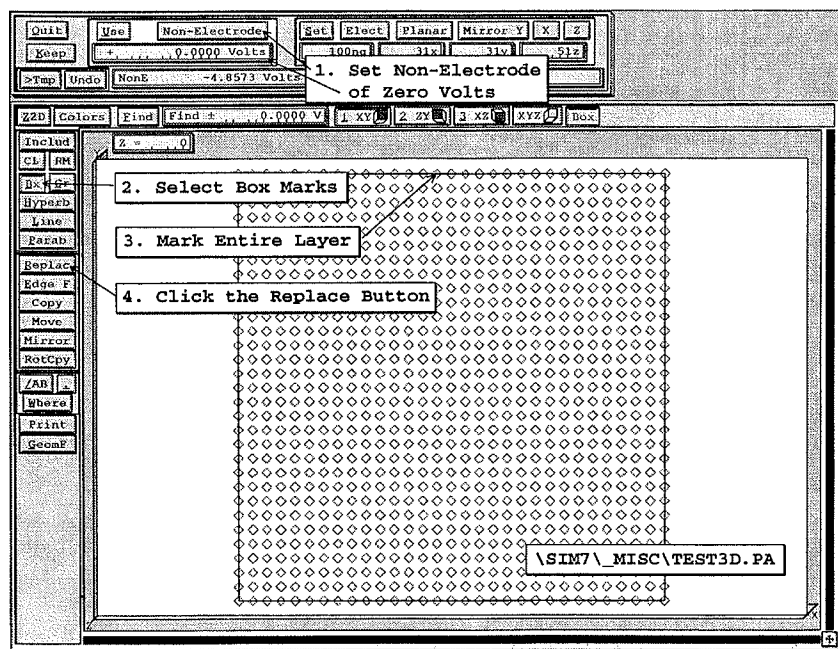

Figure 5-16 Using the Replace function to erase the entire array
*The Replace function can be used to erase all points in the potential array*. The steps are: Mark an entire 2D layer with a box mark; set the point type to non-electrode/non-pole and potential to zero; and click the **Replace** button, hit the **<R>** key, or **<Ctrl>** *right* mouse button. Figure 5-16 (*above*) demonstrates this process on a memory copy of